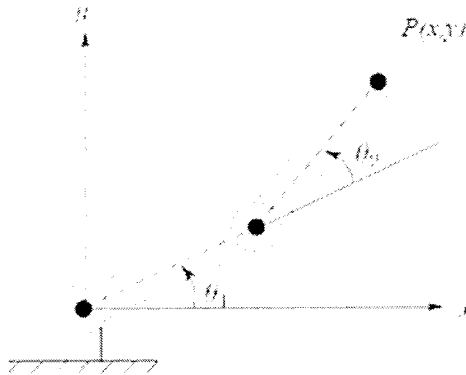

Figure 2.
6. A 2 DOF planar robot is to follow a straight line from (3,5) to end point (7,13) of the motion segment as shown in Figure 2. Find the joint angles of the robot for each of the coordinate points if the path is divided into 4 segments. Each link is of 12 cm long.